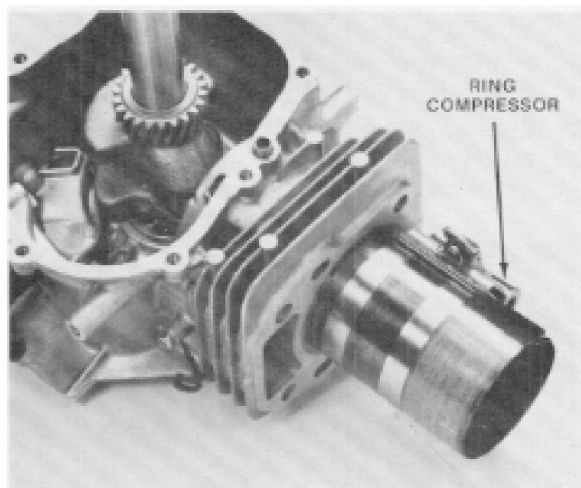

Figure 4-48
4. Lubricate the crankshaft with 30 weight oil and slide it into the ball bearing. Take care not to damage the seal. Lubricate the piston and install it with a piston ring compressor. See Fig. 4-48.